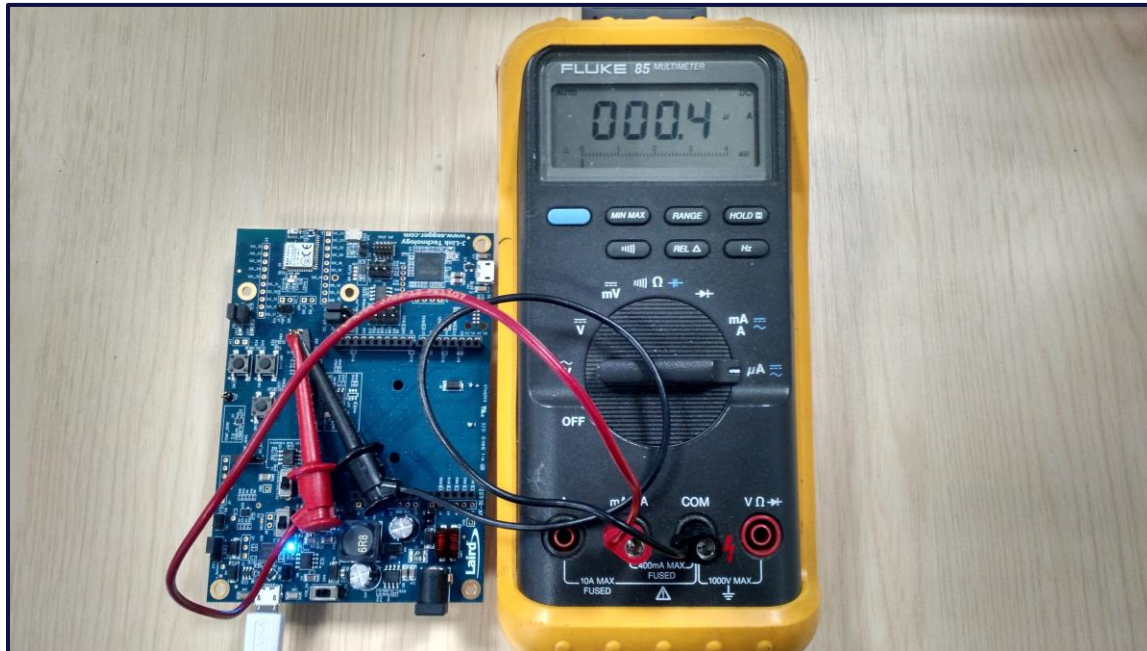

Figure 6: The current falls to about 0.4uA (400nA) when placed in deep sleep mode
- 5. Through the current measuring DMM, current should fall to about 0.4uA (Figure 6).